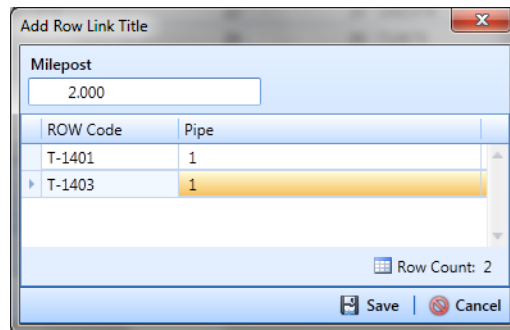

Figure 7-110. Add Row Link
- 7 Click **+** **Add** in the *ROW Links* mini-grid to open the *Add Row Link* dialog box (Figure 7-110).